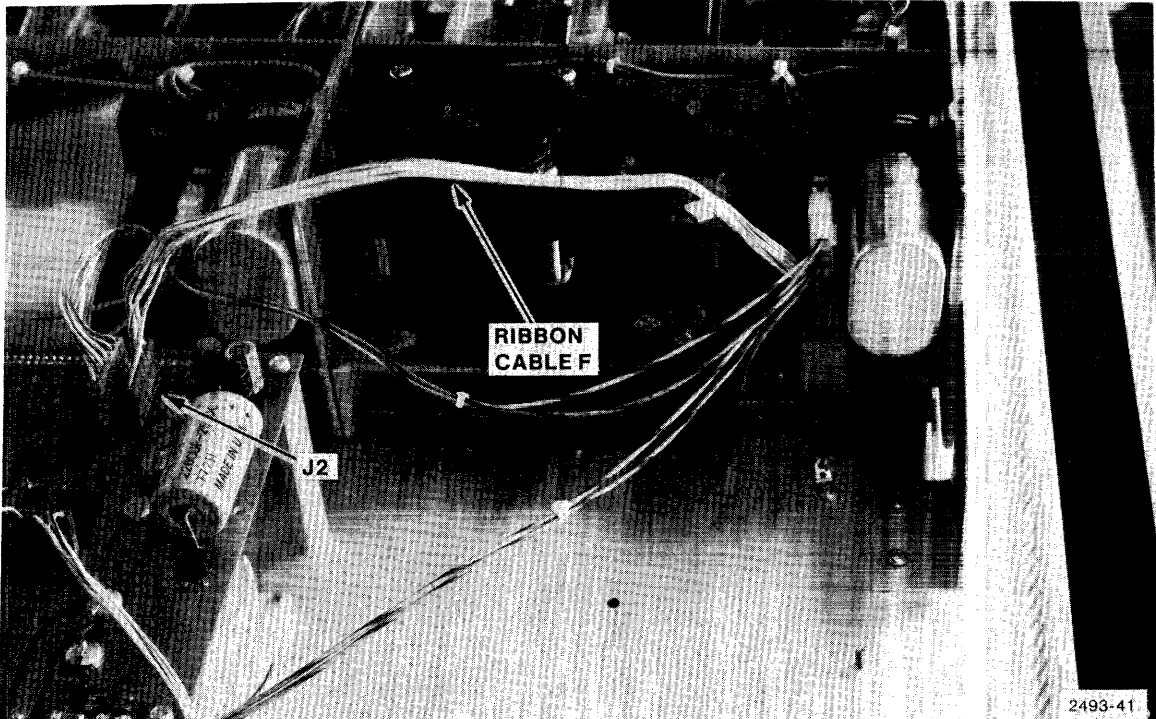

Figure 7-15. Installing ribbon cable F.
- y. Install ribbon cable F (Figure 7-15).